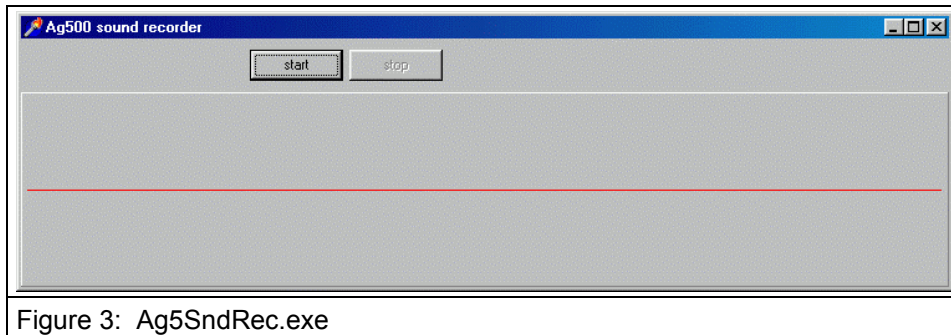

Figure 3: Ag5SndRec.exe
- the program comes up with a window shown in fig.3
- on starting Ag5SndRec you'll see fig 3